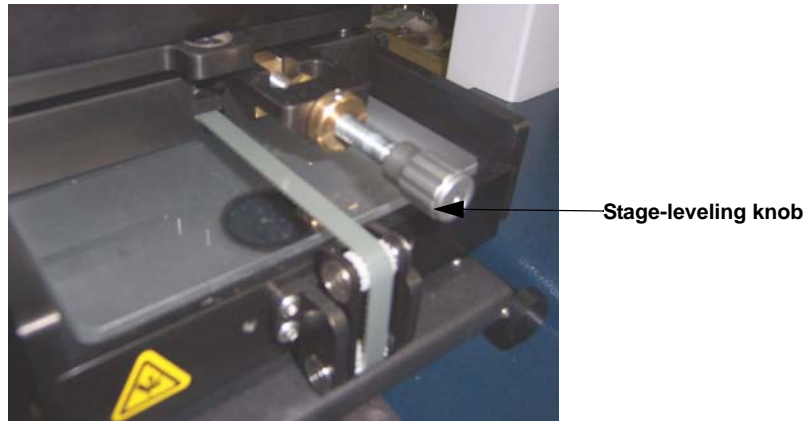

Figure 4-7: Stage-Leveling Knob
- Manually level the scan stage (see Figure 4-7). For instructions, see Leveling the Stage on page 3-6.
When a measurement begins, the tower assembly lowers and the stylus descends. You can see the stylus and its shadow in the Live Video Display (see Figure 4-7).